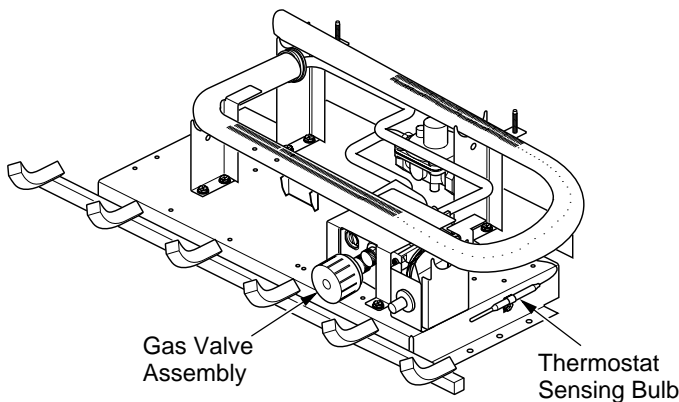

Figure 31 - Location of Gas Valve Assembly and Thermostat Sensing Bulb
1. Remove logs. Locate the gas valve assembly and thermostat sensing bulb (see Figure 31).